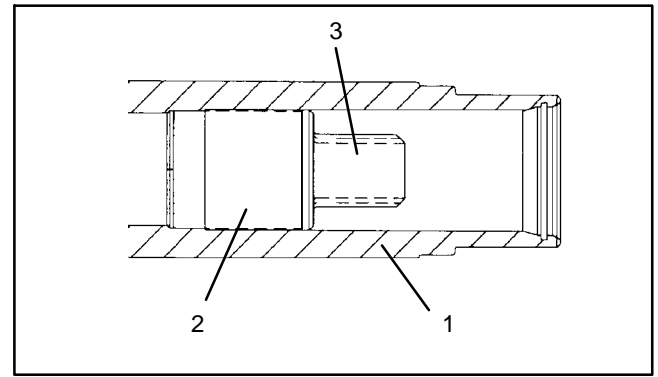

Figure 21
1. Remove the retaining ring (5) and the drive coupler (4) from the end of the reel shaft.
2. Remove the V-ring (3) from the reel shaft.
3. Using a flat blade screw driver or similar tool, remove the speedi sleeve (2) from the reel shaft.
- C. Check the drive adapter inside of the reel shaft (Fig. 21). The adapter should be free of bending and distortion. Check the splines for excessive cracks or distortion. Replace the reel if necessary.